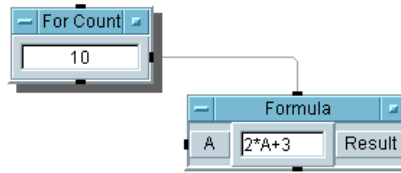

Figure 1-13. Selected and Deselected Objects
1. To select an object, click on the object and a shadow appears behind it. For example, in Figure 1-13, the For Count object is selected.
2. To deselect an object, move the mouse pointer over any open area and click. The shadow disappears. For example, in Figure 1-13, the Formula object is not selected.